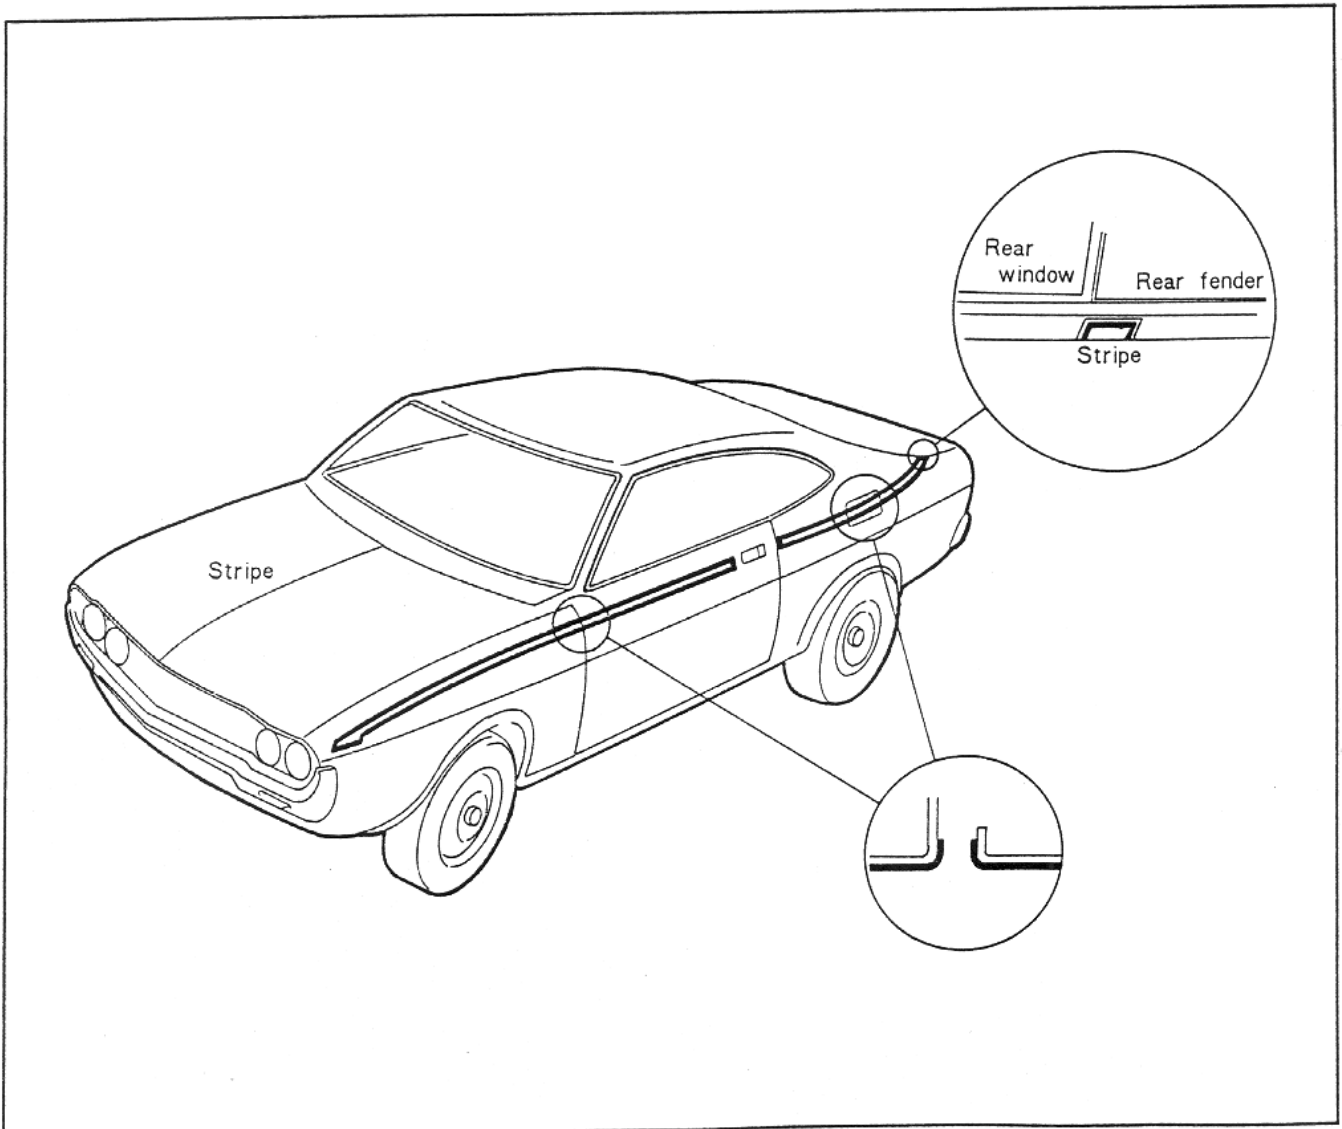

Fig. 14-113 Stripe
3. On the gap between door and fender, filler lid and fender, stick the tape without cutting. After that, cut the tape at the center of the gap and stick fast the end of the tape to body with squeeze as shown in Figure. 14-113.